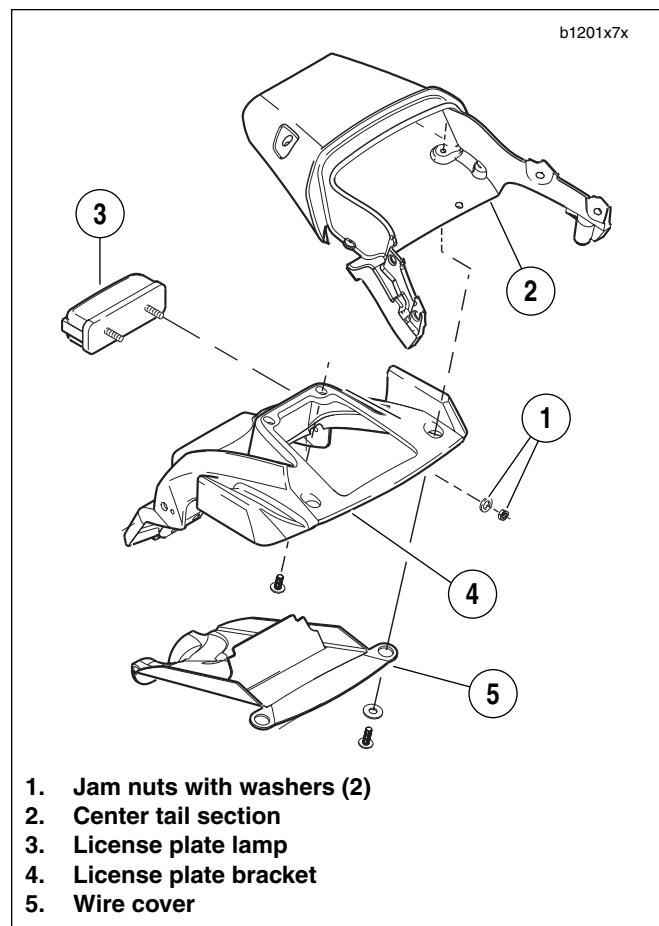

Figure 7-52. License Plate Lamp
1. See Figure 7-52. Install **new** license plate lamp assembly.
- a. Insert license plate lamp wiring harness through hole and route into the center tail section (2) and the license plate bracket (4).
- c. Install the wire cover (5) for rear wiring.
2. See Figure 7-52. Remove rear wire cover.